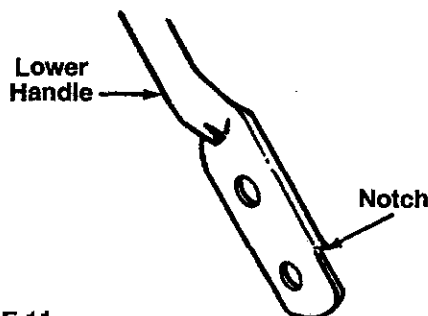

FIGURE 11.
- Turn the lower handle around so the notch on the bottom of the lower handle is facing forward as shown in figure 11. Reassemble, placing the bottom holes in the handle over the weld pins in the handle mounting bracket.
- You can fold your mower's handle for storage as shown in figure 11. Remove the starter rope from the rope guide. Loosen the two hand knobs on the sides of the handle, and let the upper handle fold down to the rear. Move the hairpin clips to the outer hole in the weld pins on the handle mounting brackets. Refer to figure 3. Spread the sides of the lower handle, and push it forward and down.